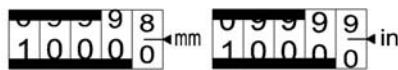
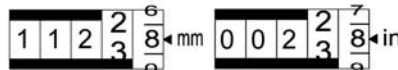

Fig. 4.3
Fig. 4.4
a) The reading is taken in two parts. The first is the readings to the left of the decimal point and the second is the reading taken to the right of the decimal point. For example in Fig. 4.3 the reading is 0.9999" or 9.999mm as the numbers to the left of the decimal point have not yet completely rolled over. The reading in Fig. 4.4 is 0.0228" or 11.228mm. In Fig. 4.5 the reading is 0.0170" or 11.170mm, and the reading is 0.0311" or 11.341mm in Fig. 4.6.